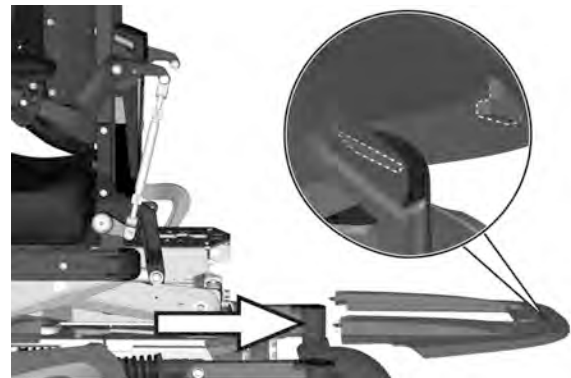

Figure 5. The chassis top cover.
4. Pull the top chassis cover backwards off the chassis. See fig. 5.
Assemble the rear chassis cover on to the chassis by positioning the covers on the axles of the link arms. See fig. 5.